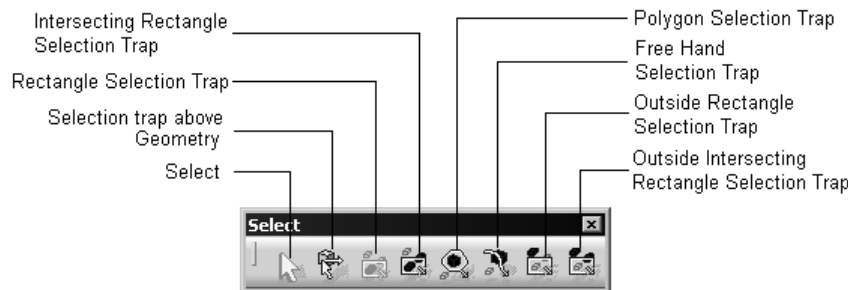

Figure 2-14 The **Select** toolbar
**Select** tool. When you choose the down arrow, the **Select** flyout will be displayed. Detach the **Select** flyout from the **Select** toolbar by holding it from the vertical/horizontal line and placing it in the geometry area. The **Select** flyout will now become the **Select** toolbar, as shown in Figure 2-14. The methods of selecting entity using the tools in the **Select** toolbar are discussed next.